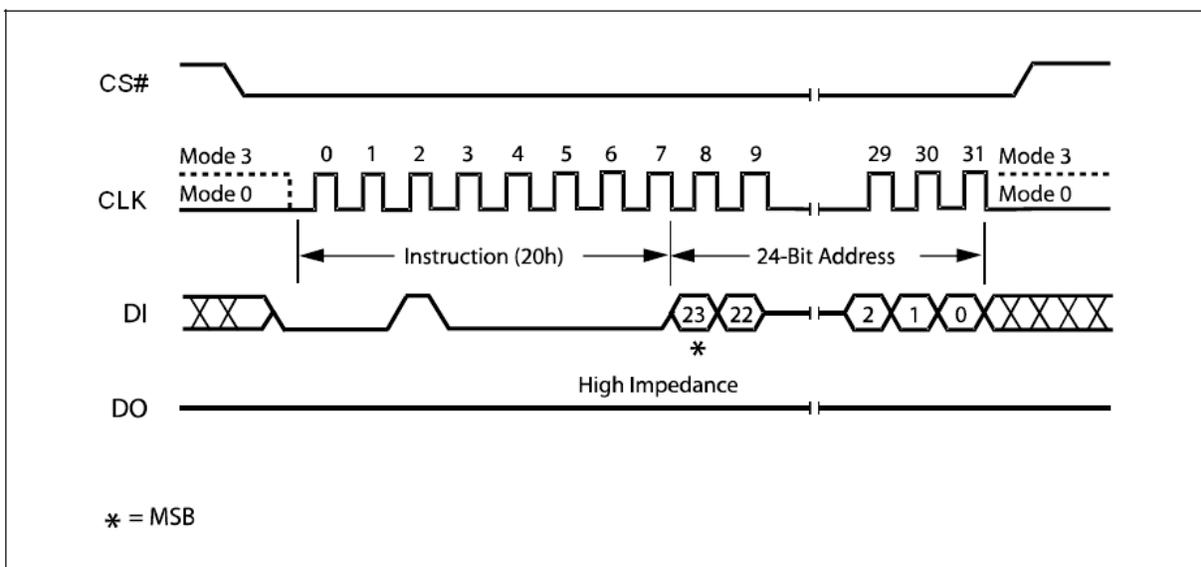

Figure 26. Sector Erase Instruction Sequence Diagram
The instruction sequence is shown in Figure 26. Chip Select (CS#) must be driven High after the eighth bit of the last address byte has been latched in, otherwise the Sector Erase (SE) instruction is not executed. As soon as Chip Select (CS#) is driven High, the self-timed Sector Erase cycle (whose duration is t_{SE}) is initiated. While the Sector Erase cycle is in progress, the Status Register may be read to check the value of the Write In Progress (WIP) bit. The Write In Progress (WIP) bit is 1 during the self-timed Sector Erase cycle, and is 0 when it is completed. At some unspecified time before the cycle is completed, the Write Enable Latch (WEL) bit is reset.